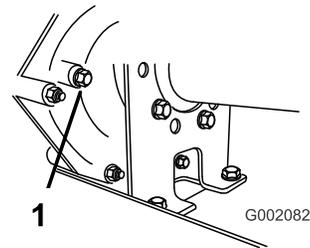

Figure 61
2. Remove the bolt from the level-indicating hole (Figure 61).